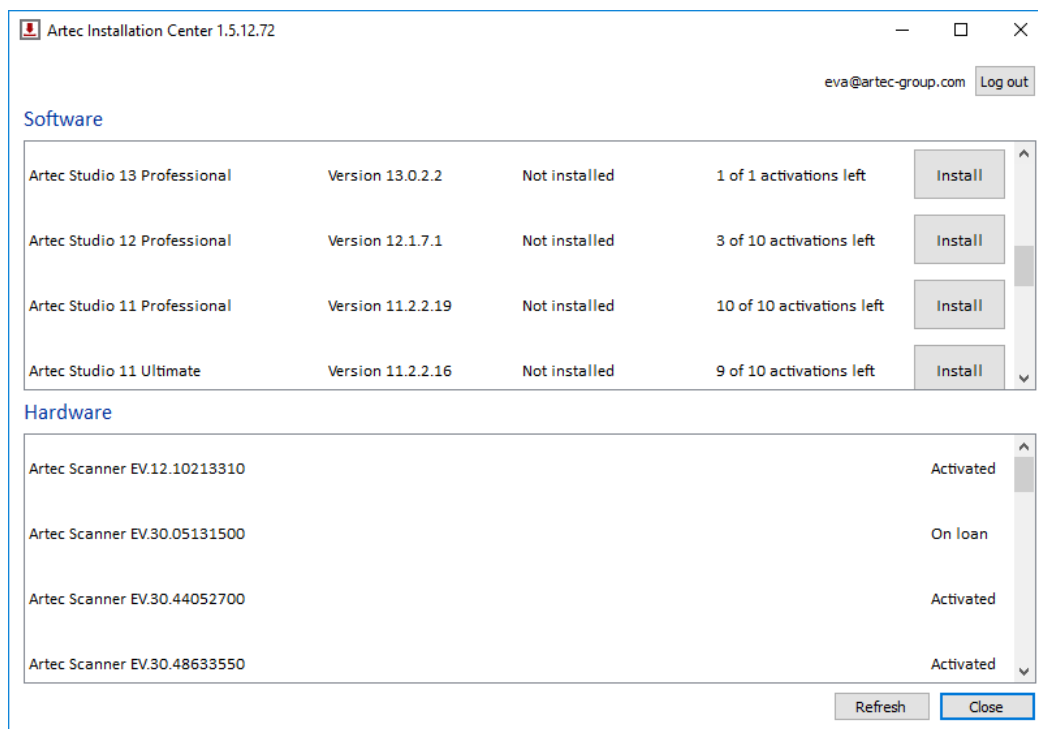

Figure 36: Artec Installation Center.
1. Run Artec Installation Center (go to the Start menu: click *Start* → *All Programs* → *Artec Group* → *Artec Installation Center*) to bring up the window shown in Figure 36.